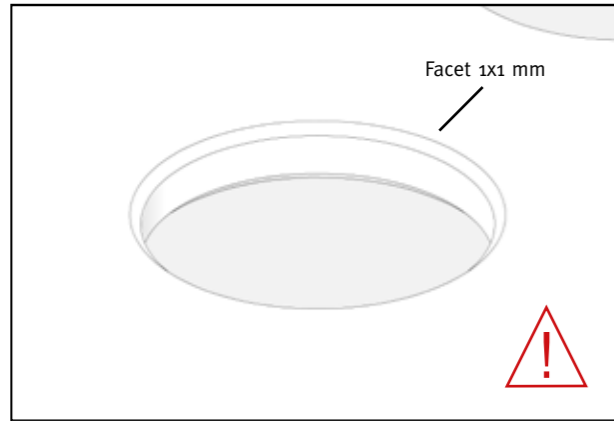

Fig. A3
- Create a very small 1x1 mm facet on both the upper and lower edges of the cutouts (Fig. A3).